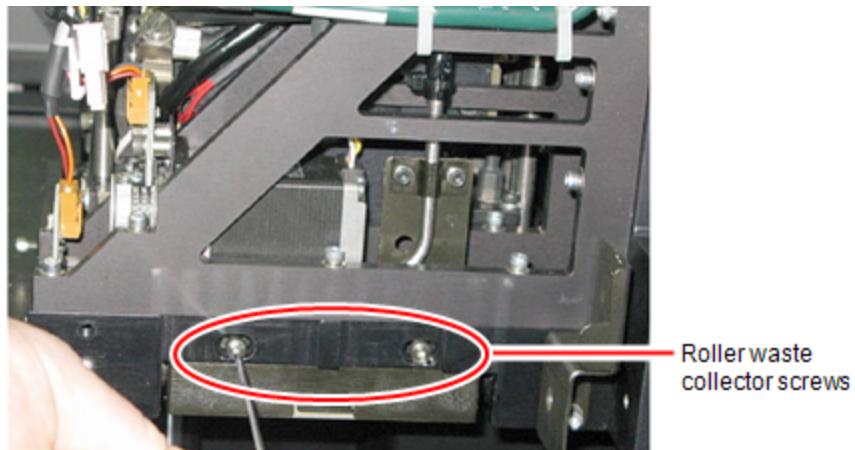

Figure 4-40 Removing the roller waste collector screws
1. Return the roller waste collector to the print block and screw on the covering (see Figure 4-40 on the previous page).